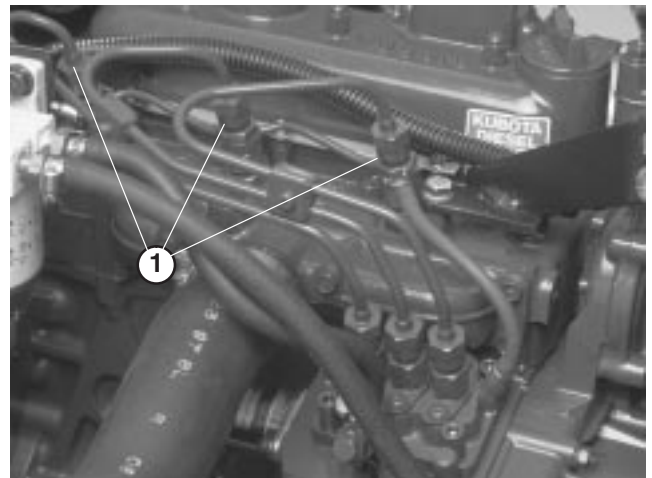

Figure 54
1. Loosen the pipe connection to the No. 1 nozzle and holder assembly (Fig. 54).